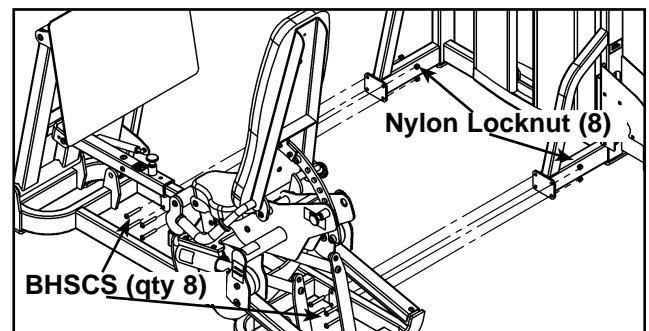

Figure 4
K. With an assistant, carefully remove the eight BHSCS securing the two halves of the frame. See Figure 4.
M. With an assistant, carefully attach each half together using the eight BHSCS removed in step 4K. See Figure 4.